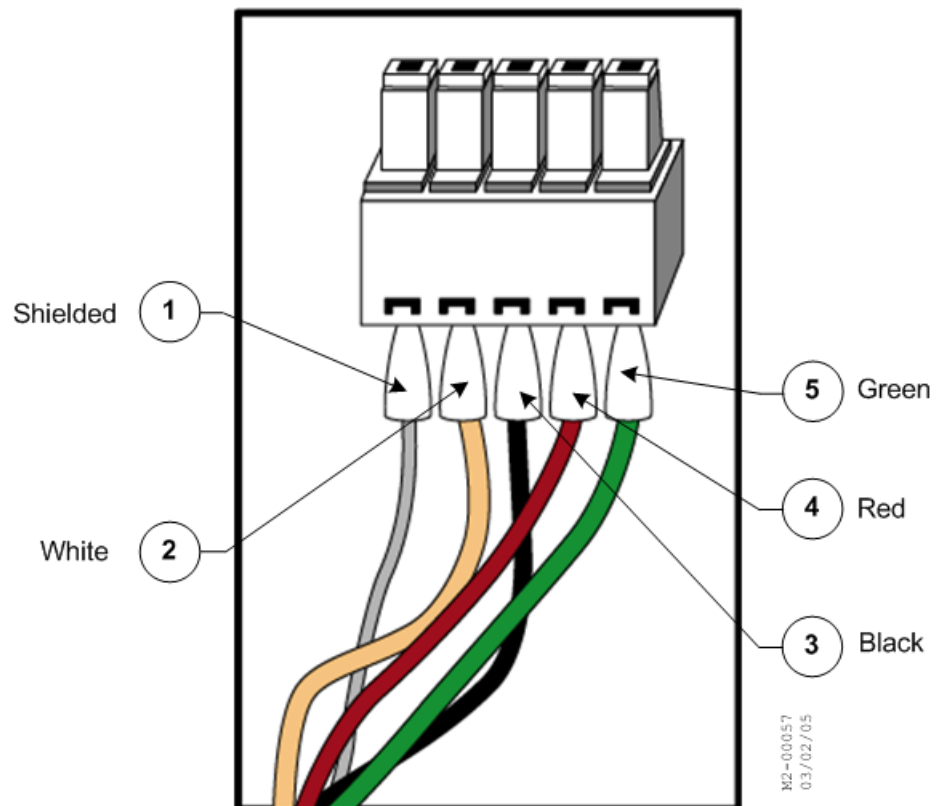

Figure 4-7: Wiring the Green Connector
1. Insert the wires into the green connector as listed below. (Terminals are ordered left to right.) See Figure 4-7.